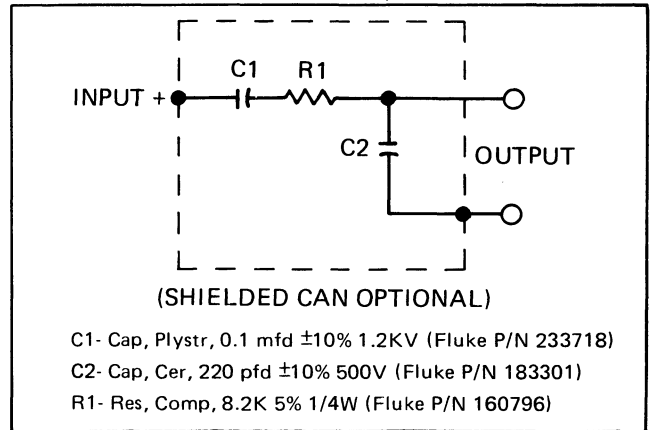

Figure 4-5. Low Pass Filter Network Schematic
1. Construct the low pass filter network as shown in Figure 4-5, Low Pass Filter Network Schematic, or purchase the equivalent commercially. The specifications: BP of DC to 100 kHz (3 dB down at 100 kHz), noise level of 5 μ V or less, DC blocking of up to 1200V. The shielded environment for the filter is optional but recommended for high noise areas.